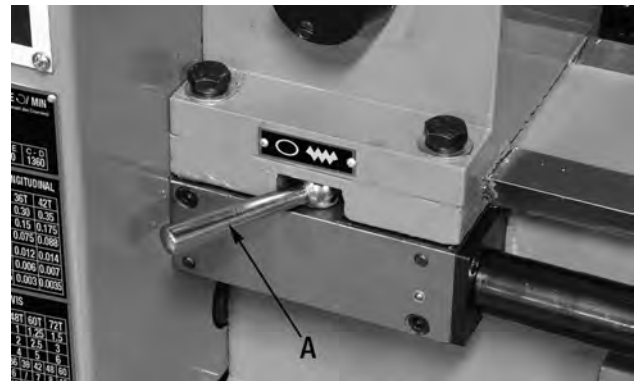

FIGURE 23
The feed lever (A) Fig.23 turns the power feeding feature ON or OFF. When lever is placed to the right, the feed lever engages power to the leadscrew, providing power to the carriage and cross slide.
To make a cut using a feed rate of 0.002" per revolution, install the 24 tooth gear into position A, (see Fig.25) and move the feed selection lever (A) Fig.23 into position III.